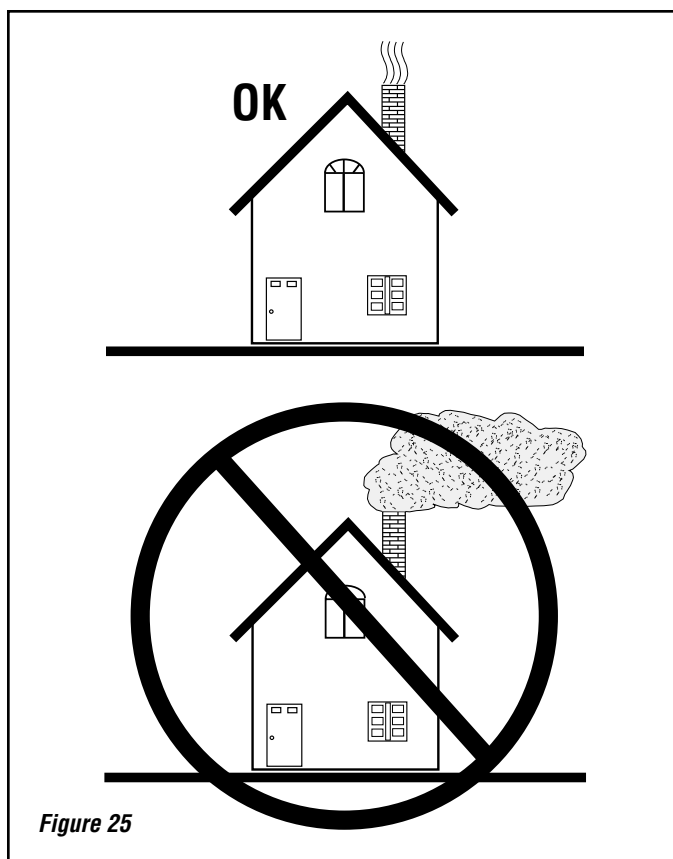

Figure 25
7. For best results, use smaller pieces of wood to get the appliance temperature very high before loading larger wood for sustained burns. If necessary, crack the door to allow ignition of the fuel charge. Now you can add larger pieces of wood and after several minutes of high burn, set the left control for the desired heat output. Check the exhaust in about 15 to 20 minutes (*see Figure 25*). Large amounts of smoke indicate an improper burn setting (either too high or too low). Adjust and recheck in 5 to 10 minutes.
6. Go outside and check your chimney. More than a very small amount of smoke indicates wasted heat, creosote build up and pollution (*see Figure 25*).